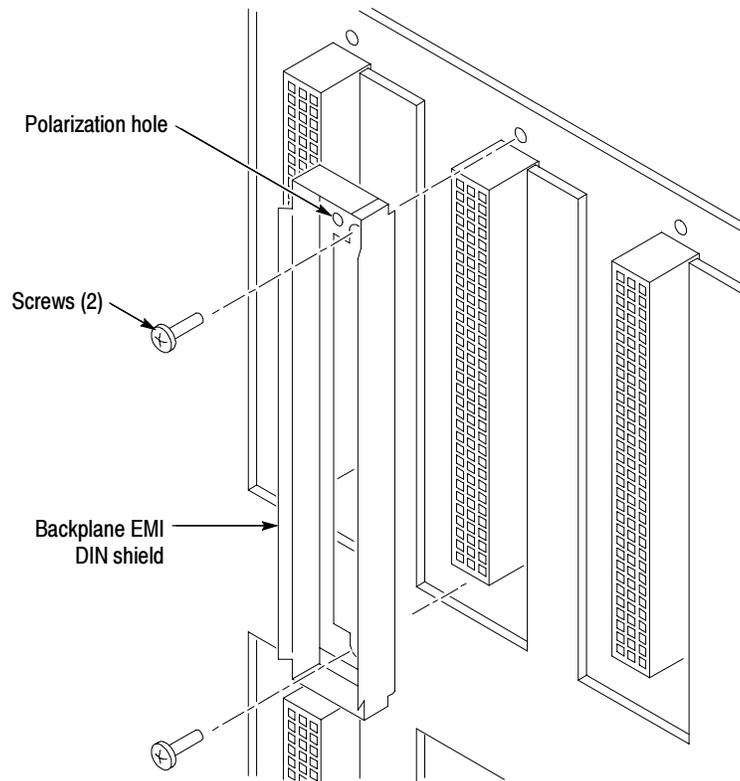

Figure 19: Removing the backplane EMI DIN shields
1. Remove any modules surrounding the slots where you intend to remove the Backplane EMI DIN shields. Refer to Figure 19.